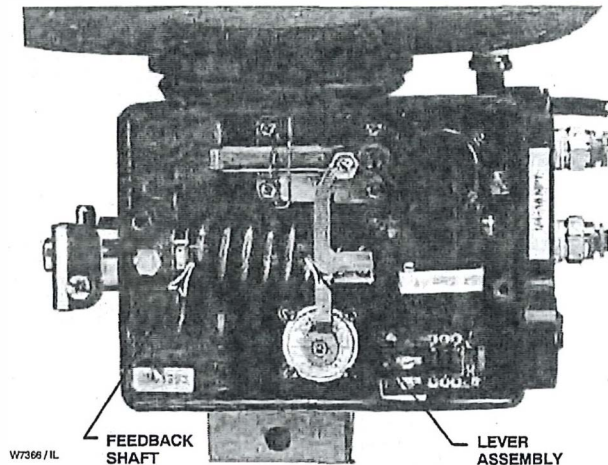

Figure 11. Range Spring Installation
7. Tighten the retaining screw (key 19P) until the screw engages the anti-rotating slot so that the bushing does not rotate, but leave the screw loose enough so that the bushing can slide freely into the housing.
8. Refer to figures 11 and 12. Select the appropriate range spring (key 30) from tables 2 and 3. Place the range spring in the positioner so that one end of the spring is fully in the lever assembly slot. Next, rotate the feedback lever assembly so that: